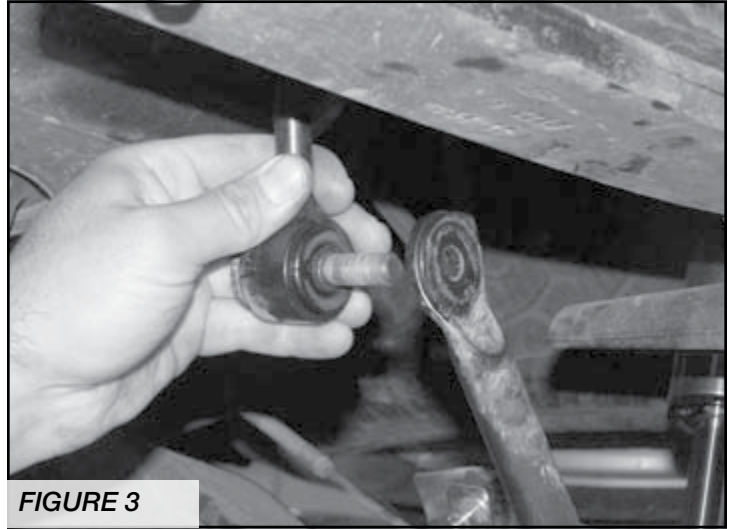

FIGURE 3
3. Remove the bolt attaching the factory link to the sway bar and discard the link. **SEE FIGURE 3**